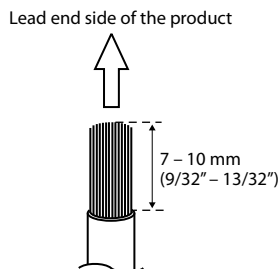

Fig. 7
2. Remove the insulation from the ends of the wire leads by about 7 – 10 mm (9/32" – 13/32"). (Fig. 7)